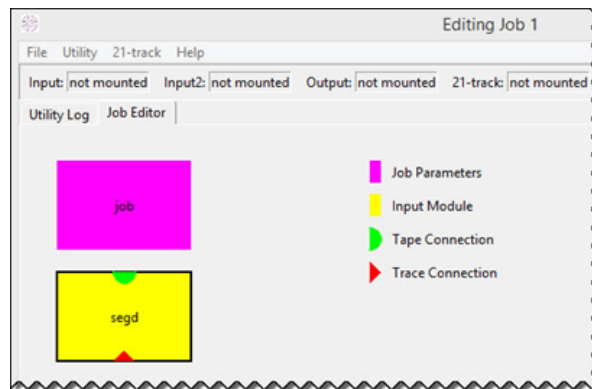

Figure 4-4 Magma module boxes display in main Magma window.
3. The main Magma job screen will display the Job Parameter and Input modules (Figure 4-4 on the facing page). These can now be linked to form a workflow for manipulating or analysing the input data.